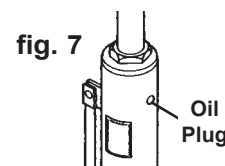

fig. 7
- a) Remove oil filler plug (fig.7), add oil to entrance of the oil filling hole and pump up to full height to pour off excess oil. Re-place oil plug.